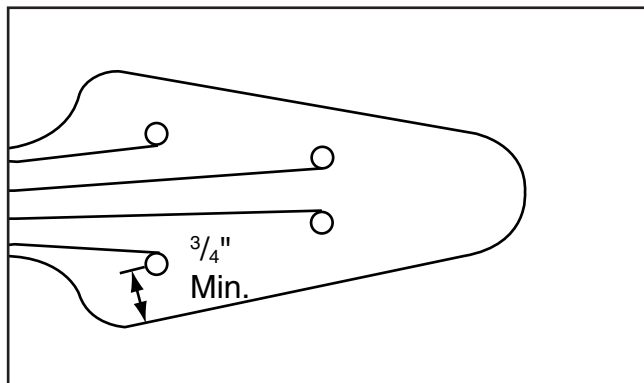

Figure 6. Example of string paths and peghole locations.
3. Draw the path of the strings onto the test paper to ensure that the strings do not interfere with each other as shown in **Figure 6**.